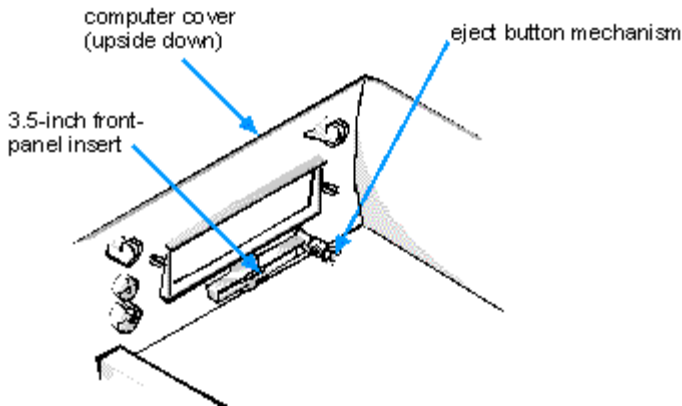

**Figure 7-2. Removing the Front-Panel Insert for the 5.25-Inch Bay**
4. With your thumbs, press in each end of the insert until it snaps free of the cover (see Figure 7-2).
To replace the front-panel insert for the 5.25-inch bay, work from inside the cover. Position the insert behind the bay opening, insert the two ring-tabs (see Figure 7-2) over the posts on the inside of the opening, and firmly press both ends of the insert into place.